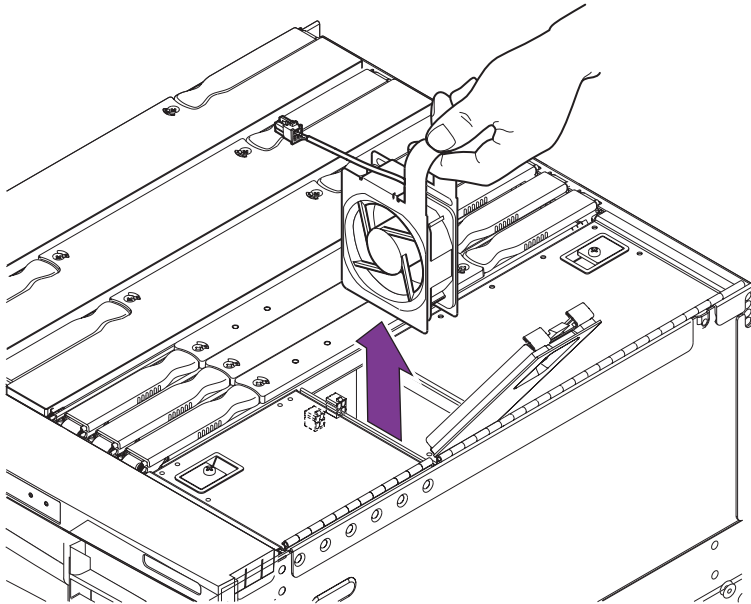

FIGURE 6-11 Removing an IB_SSC Fan
6. From the right side of the system, lift the fan out of the chassis using the metal loop (FIGURE 6-11).